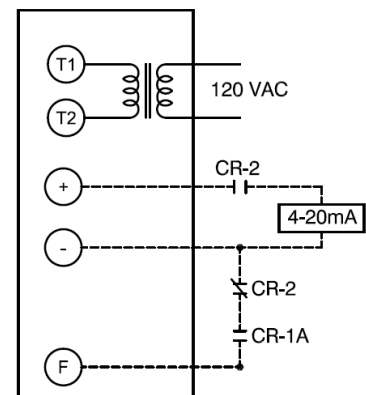

Figure A-1: Wiring a Honeywell Mod IV Motor to the LME75 (no Valve Proving)
3. Wire the LME75.000A1 burner control, Honeywell Modutrol IV motor, and two relays as shown in Figure A-1. See Section 4 for more details on how to wire in other devices to the LME75.